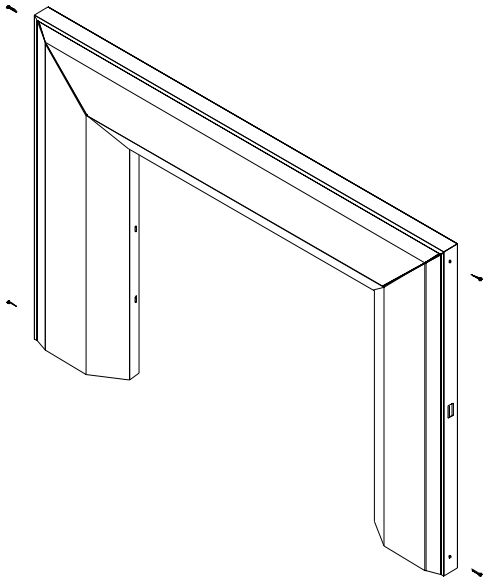

Figure 16
5. Secure the trim to the faceplate with four (4) brass bolts, washers and nuts (See Figure 16).